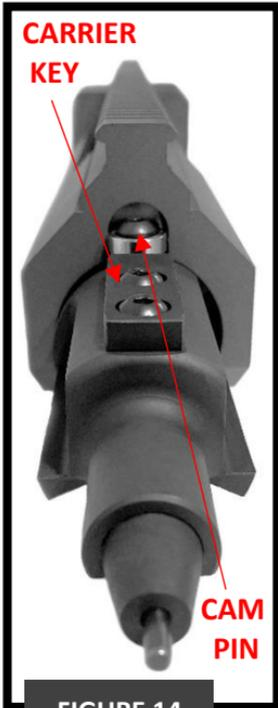

FIGURE 14
5. Align the carrier key and the cam pin to the 12 o'clock position with the upper receiver channel. **SEE FIGURE 14, PAGE 37.** Slide the bolt and carrier group forward until it contacts the barrel extension.